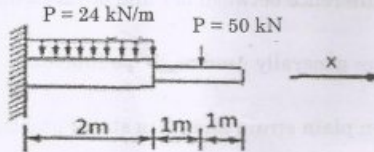

Fig. 2
- (b) Determine the deflection and slope of the cantilever beam for the loading conditions as shown in Fig. 2.